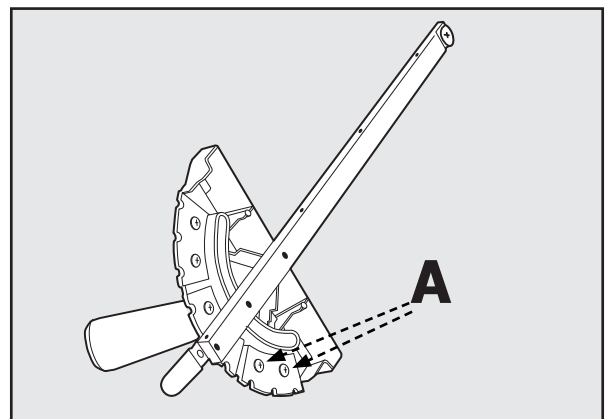

FIGURE 37
2. Loosen the 2 screws for the miter stop segment for the desired new angle. (A) is shown in Figure 37.